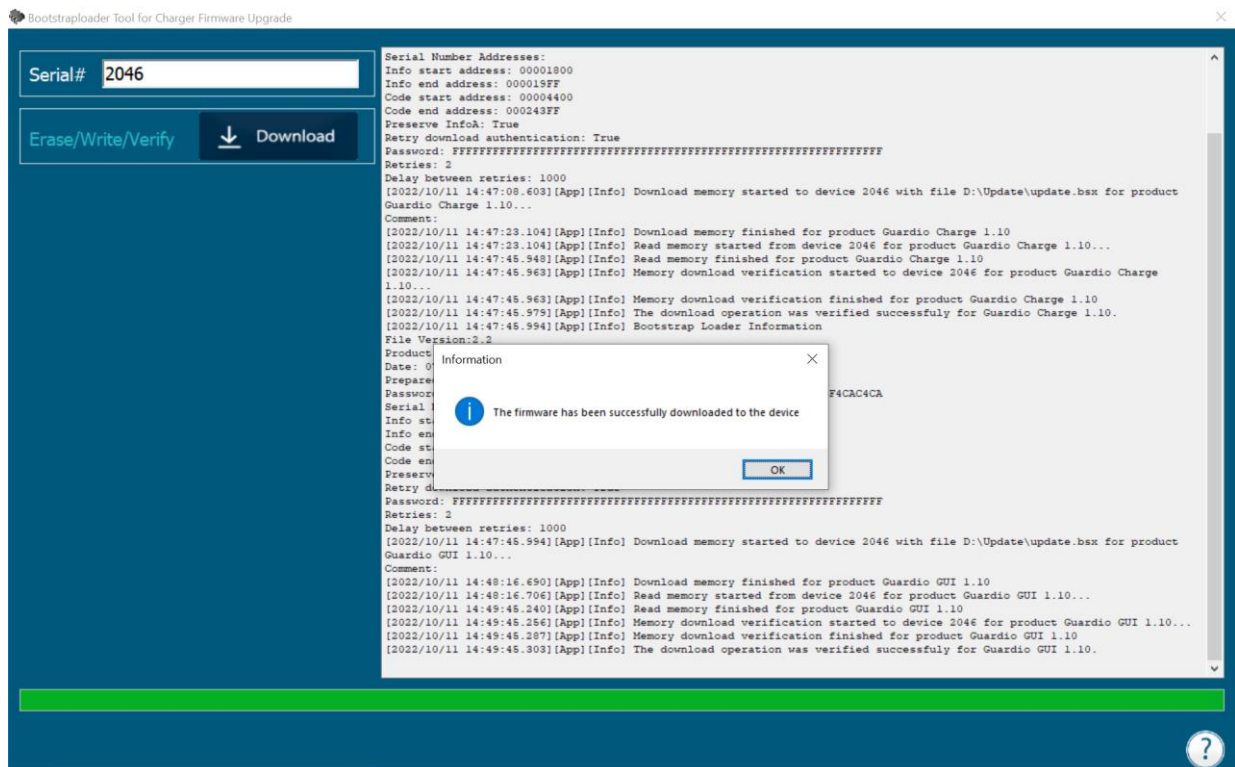

Figure 87: Message Indicating Firmware Successfully Loaded onto Guardio/Vesta Charger
15. When the firmware update has been completed, verify that the application displays a message “The firmware has been successfully downloaded to the device”. Tap **OK**. See Figure 87.